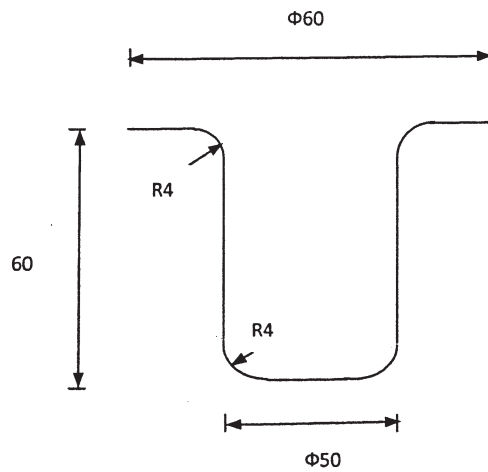

Figure 2
Q3) Design a Drawing die for the component as shown in figure 2.
- Q4)** a) Calculate blank size required to form a cup (figure 2) using graphical method. [8]